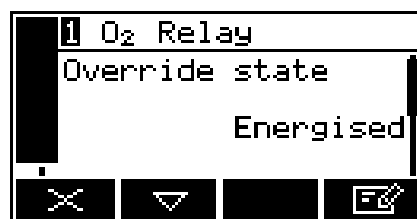

Figure 89 – The relay override state screen
2. Figure 89 shows the relay state (energised or deenergised) that the relay signals outputs will be set to when the override is active. Edit if required.